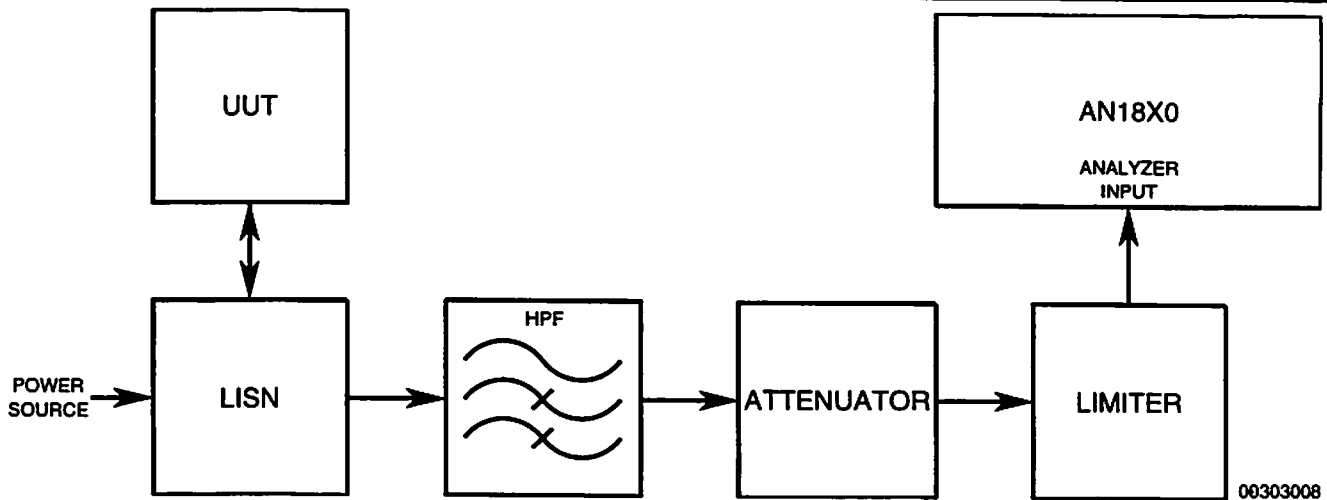

Figure 7-3 Conducted EMI Test Hook-Up
1. For radiated EMI testing, go to Step 2. For conducted EMI testing, set up and connect test equipment as shown in Figure 7-3: